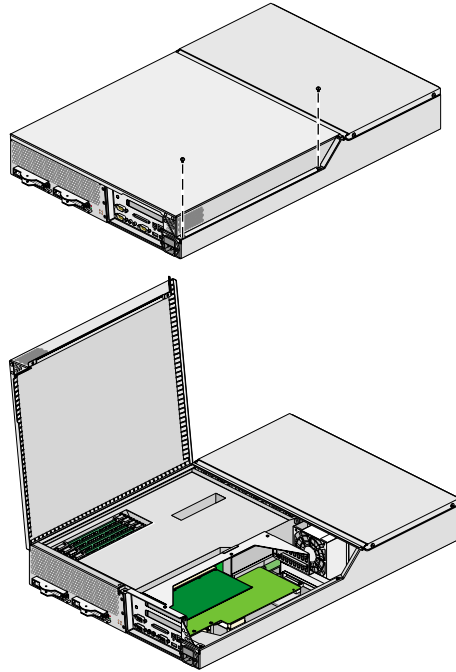

Figure 3-4 Opening the Chassis
5. Open the server by removing the two screws and lifting the cover as shown in Figure 3-4.
5. Open the server by removing the two screws and lifting the cover as shown in Figure 3-4 on page 59.